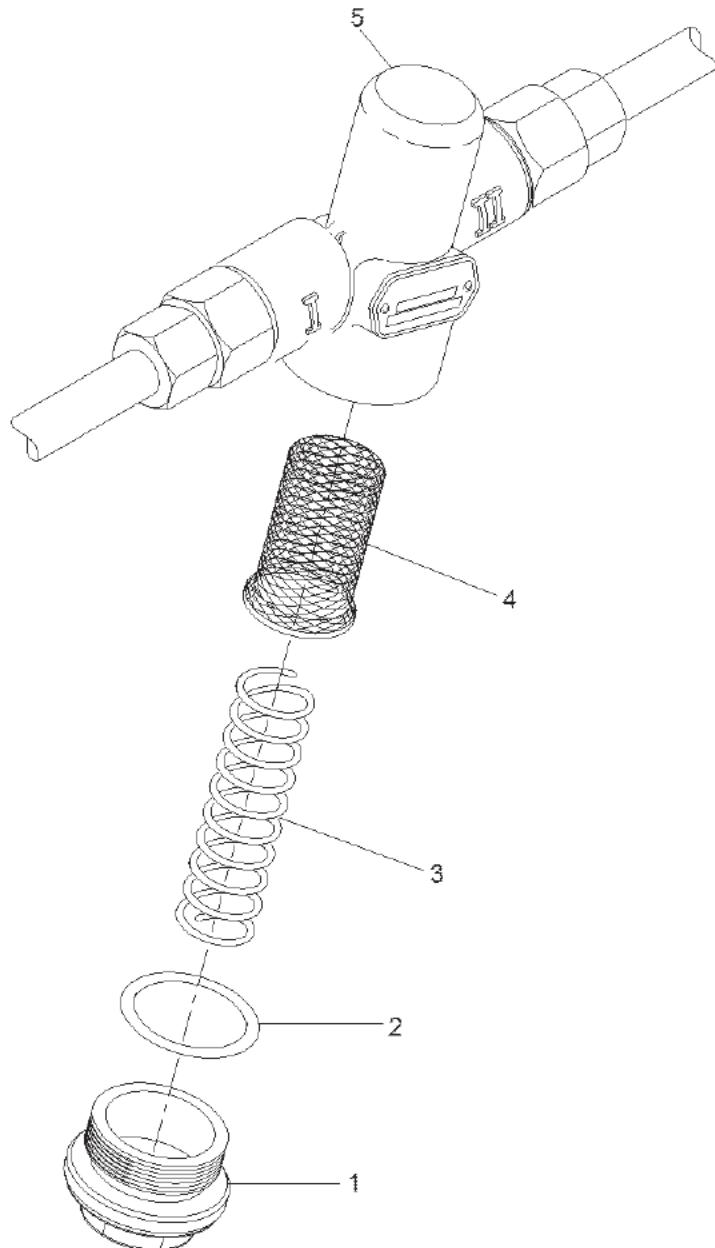

Figure 3-6: Air Filter Element
1. Vent pressure in the circuit by looking at the indicator on the handle for the appropriate supply cutout valve and reposition the valve handle so that the indicator is perpendicular to the piping and the valve is closed. See Figure 3-6. Refer to Section 3.19 of Section 1300, Friction Brakes of the Heavy Repair Maintenance Manual.